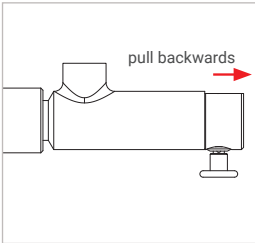

Figure 9
- ▶ Pull lightly on the connector (red arrow *Figure 9*) in the direction opposite that of the connection to make sure that the connector is firmly in place.